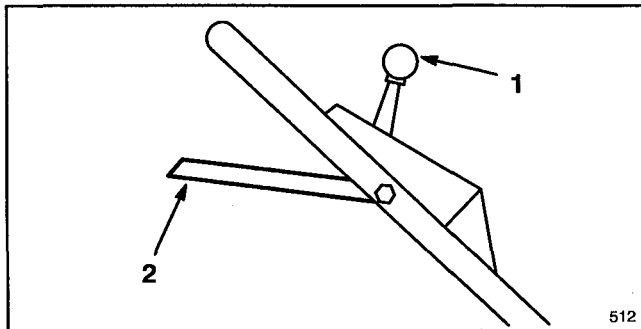
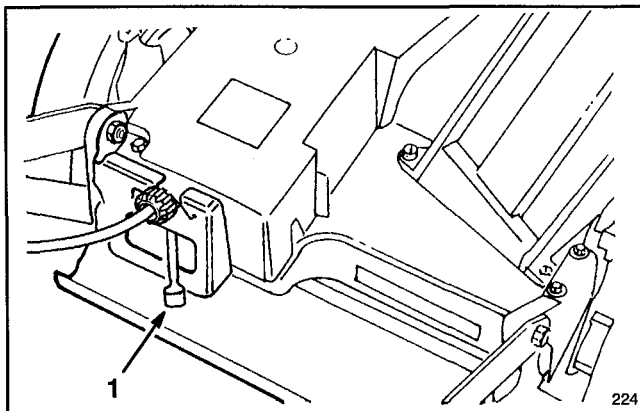

Figure 9
Figure 10
1. **CONTROLS**—Throttle control and blade/self-propelled control bar are on upper handle (Fig. 9). Ground speed control is located at rear of belt cover (Fig. 10). Recoil starter is on top of engine.